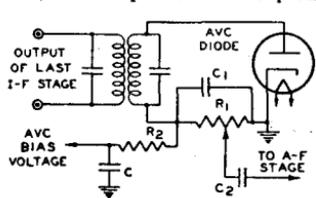
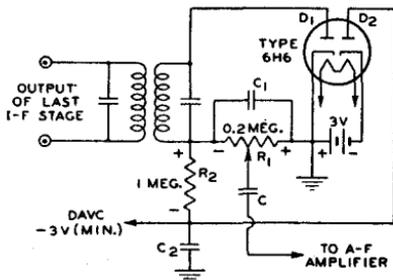
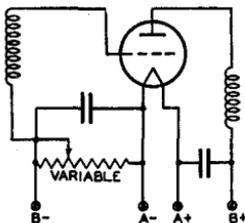
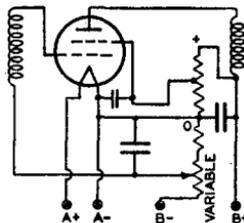

Fig. 41
Fig. 42
Fig. 55
Fig. 57
The avc circuit reduces the r-f and i-f gain for a strong signal usually by increasing the negative bias of the r-f, i-f, and frequency-mixer stages when the signal increases. A simple avc circuit is shown in Fig. 41. On each positive half-cycle of the signal voltage, when the diode plate is positive with respect to the cathode, the diode passes current. Because of the flow of diode current through  $R_1$ , there is a voltage drop across  $R_1$ , which makes the left end of  $R_1$  negative with respect to ground. This voltage drop across  $R_1$  is applied, through the filter  $R_2$  and  $C$ , as negative bias on the grids of the preceding stages. Then, when the signal strength at the antenna increases, the signal applied to the avc diode increases, the voltage drop across  $R_1$  increases, the negative bias voltage applied to the r-f and i-f stages increases, and the gain of the r-f and i-f stages is decreased. Thus the increase in signal strength at the antenna does not produce as much increase in the output of the last i-f stage as it would produce without avc. When the signal strength at the antenna decreases from a previous steady value, the avc circuit acts, of course, in the reverse direction, applying less negative bias, permitting the r-f and i-f gain to increase, and thus reducing the decrease in the signal output of the last i-f stage. In this way, when the signal strength at the antenna changes, the avc circuit acts to prevent change in the output of the last i-f stage, and thus acts to prevent change in loudspeaker volume.
In the circuit shown in Fig. 41, a certain amount of avc negative bias is applied to the preceding stages on a weak signal. Since it may be desirable to maintain the receiver's r-f and i-f gain at the maximum possible value for a weak signal, avc circuits are designed in some cases to apply no avc bias until the signal strength exceeds a certain value. These avc circuits are known as delayed avc, or, d-avc circuits. A d-avc circuit is shown in Fig. 42. In this circuit, the diode section  $D_1$  of the 6H6 acts as detector and avc diode.  $R_1$  is the diode load resistor and  $R_2$  and  $C_1$  are the avc filter. Because the cathode of diode  $D_2$  is returned through a fixed supply of -3 volts to the cathode of  $D_1$ , a d-c current flows through  $R_1$  and  $R_2$  in series with  $D_2$ . The voltage drop caused by this current places the avc lead at approximately -3 volts (less the negligible drop through  $D_2$ ). When the average amplitude of the rectified signal developed across  $R_1$  does not exceed 3 volts, the avc lead remains at -3 volts. Hence, for signals not strong enough to develop 3 volts across  $R_1$ , the bias applied to the controlled tubes stays constant at a value giving high sensitivity. However, when the average amplitude of rectified signal voltage across  $R_1$  exceeds 3 volts, the plate of diode  $D_2$  becomes more negative than the cathode of  $D_2$  and current flow in diode  $D_2$  ceases. The potential of the avc lead is then controlled by the voltage developed across  $R_1$ . Therefore, with further increase in signal strength, the avc circuit applies an increasing avc bias voltage to the controlled stages. In this way, the circuit regulates the receiver's gain for strong signals, but permits the gain to stay constant at a maximum value for weak signals.
It can be seen in Fig. 42 that a portion of the -3 volts delay voltage is applied to the plate of the detector diode  $D_1$ , this portion being approximately equal to  $R_1/(R_1 + R_2)$  times -3 volts. Hence, with the circuit constants as shown, the detector plate is made negative with respect to its cathode by approximately one-half volt. However, this voltage does not interfere with detection because it is not large enough to prevent current flow in the tube.
**Grid-bias variation** for the r-f and i-f amplifier stages is a convenient and frequently used method for controlling receiver volume. The variable voltage supplied to the grid may be obtained: (1) from a variable cathode resistor as shown in Figs. 55 and 56; (2) from a bleeder circuit by means of a potentiometer as shown in Fig. 57 or (3) from a bleeder circuit in which the bleeder current is varied by a tube used for automatic volume control. The latter circuit is shown in Fig. 41. In all cases it is important that the control be arranged so that at no time will the bias be less than the recommended grid-bias voltage for the particular tubes used. This requirement can be met by providing a fixed stop on the potentiometer, by connecting a fixed resistance in series with the variable resistance, or by connecting a fixed cathode resistance in series with the variable resistance used for regulation.